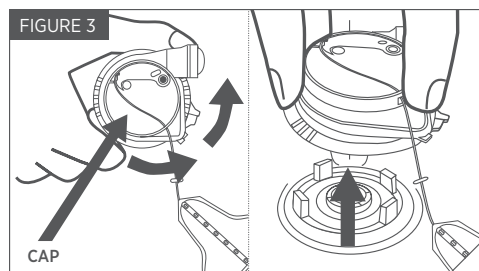

FIGURE 3
3. Turn the black locking ring counter-clockwise and lift off the cap (yellow inflator operating head Fig. 3). Dispose of the used cap.